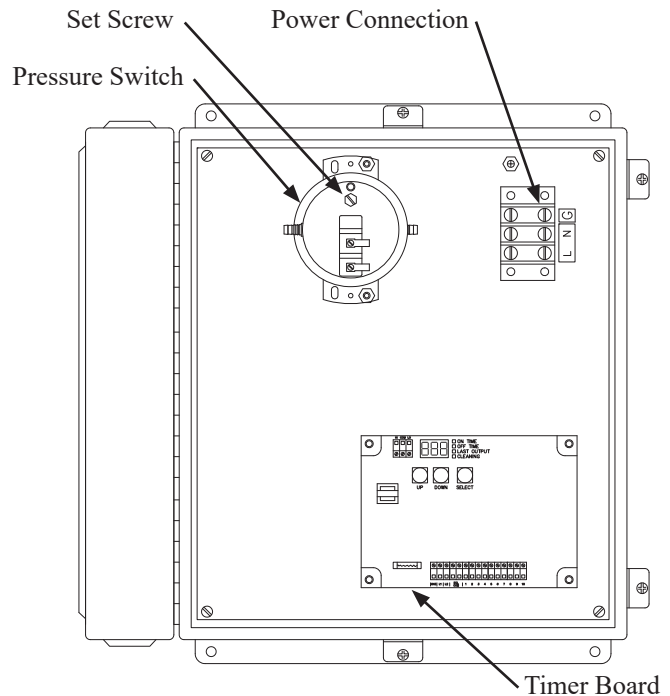

FIGURE 16
1. Open the electrical box cover located on the side of the unit. Make connections from your 120V supply power to terminal L, N and G (Figure 16).